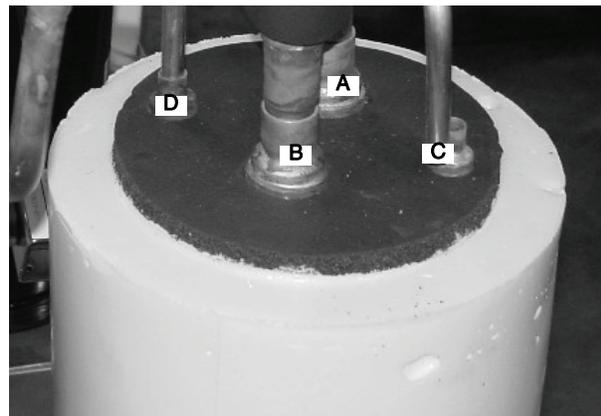

Figure 36.
39. Protecting the Armaflex insulation, as well as the foam insulation on the accumulator, braze the suction inlet (A) and outlet (B) (FIGURE 36).
40. Braze the liquid line inlet (C) and outlet (D) to the accumulator (FIGURE 36).